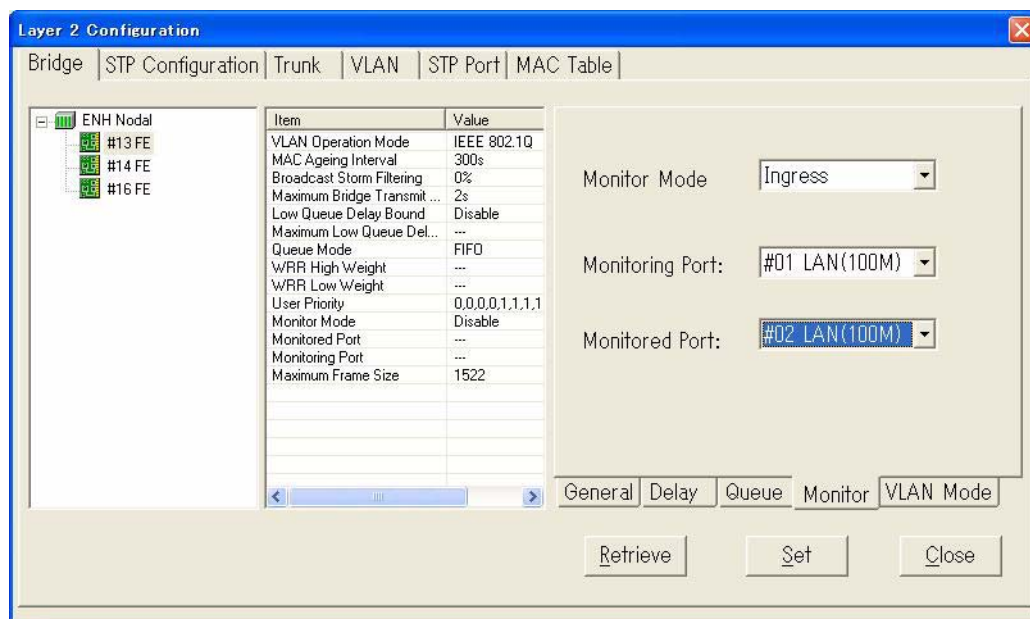

Fig. 4-4-62 Monitor Setting
- 7 In order to set the **Monitor Mode**, **Monitoring Port** and **Monitored Port**, select **Monitor** in the bottom of window, shown in *Fig. 4-4-62*.